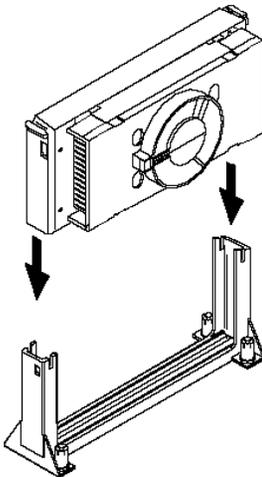

Fig. 1
For Pentium II CPUs: Locate SLOT 1. Attach the Retention Mechanism as illustrated below. (Fig.1)
1. Slide the CPU down into the retention mechanism. Make sure the CPU is correctly oriented. (Fig. 1)